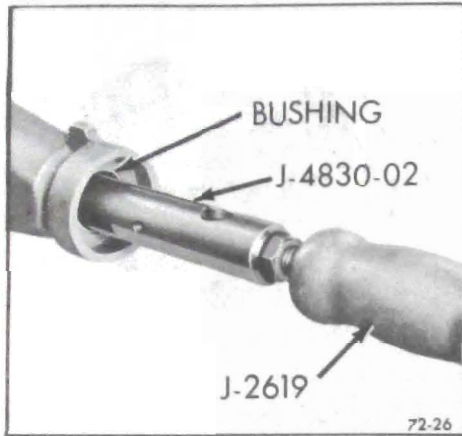

Figure 72-415 - Removing Case Extension Bushing
- Using J-2619 Slide Hammer and J-4830-02 Puller, remove case extension bushing. See Figure 72-415.